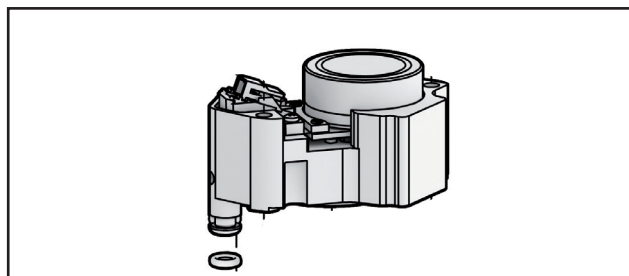

Fig. 78
- Loosen the prestage cover screws and remove the prestage cover. (Fig. 78)
- Unplug the prestage wire connector from the prestage (Fig. 78)
- Loosen the screws holding the prestage in place. (Fig. 78)